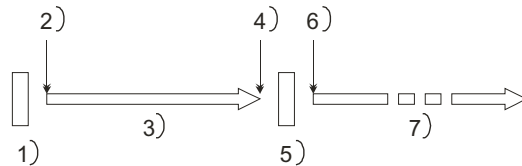

Figure 5-2
- Figure 5-2 shows the relationship between play and pause.